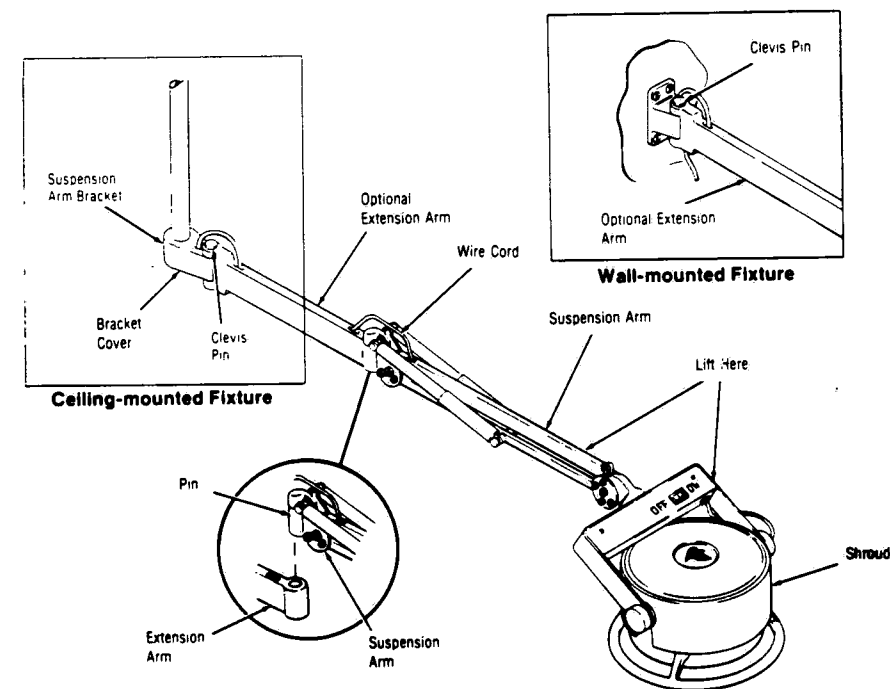

Figure 4-4. REMOVING/INSTALLING SUSPENSION ARM AND OPTIONAL EXTENSION ARM
8. For light fixture with an extension arm, proceed as follows: (See Figure 4-4 and 5-5 (28)).
c. Remove clevis pin (29) from extension arm and suspension arm bracket, remove extension arm.